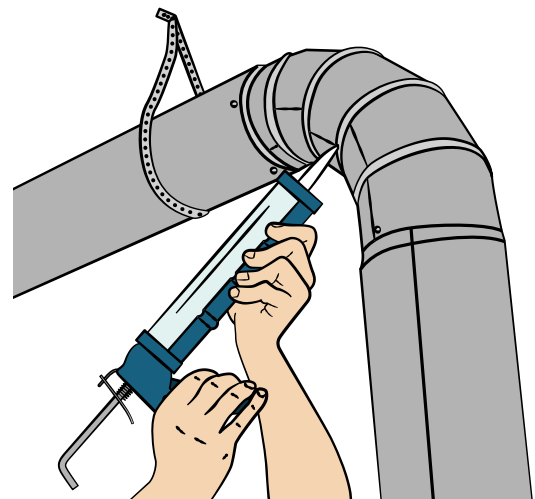

FIG. 17b
- As an alternative permanent sealing method, silicone sealant is recommended on the outside of connections so ductwork can be disassembled if needed [FIG. 17b].